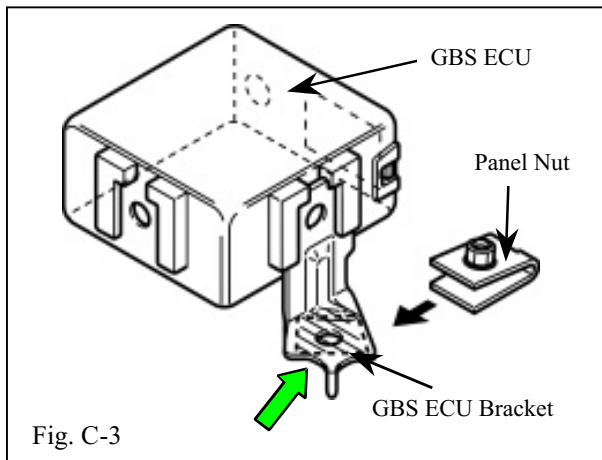

Fig. C-3
- ➔ 3. Locate and install the panel nut to the GBS ECU mounting bracket as shown. (Fig. C-3)